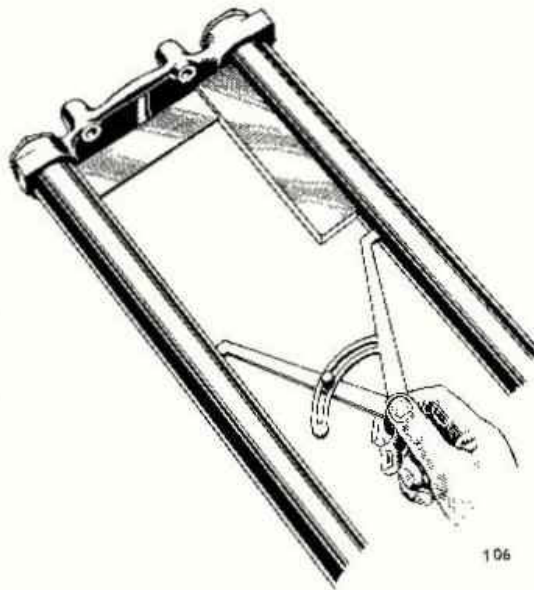

Fig. G6. Checking the top lug for alignment
- (1) Check the stanchions for truth by rolling them slowly on a flat checking table. A bent stanchion may be realigned if the bow does not exceed $\frac{3}{16}$ in. maximum. To realign the stanchion, a hand press is required. Place the stanchion on two swage "V" blocks at either end and apply pressure to the raised portion of the stanchion. By means of alternately pressing in this way and checking the stanchion on a flat table the amount of bow can be reduced until it is finally removed.
- (2) Inspect the top lug by fitting both stanchions (if true) with the cap nuts tightened in position as shown in Fig. G6. Check that the stanchions are parallel to each other in both planes by laying the assembly on a checking table and taking caliper readings as shown. Using a set square, check that the stanchions are at right angles to the top lug.